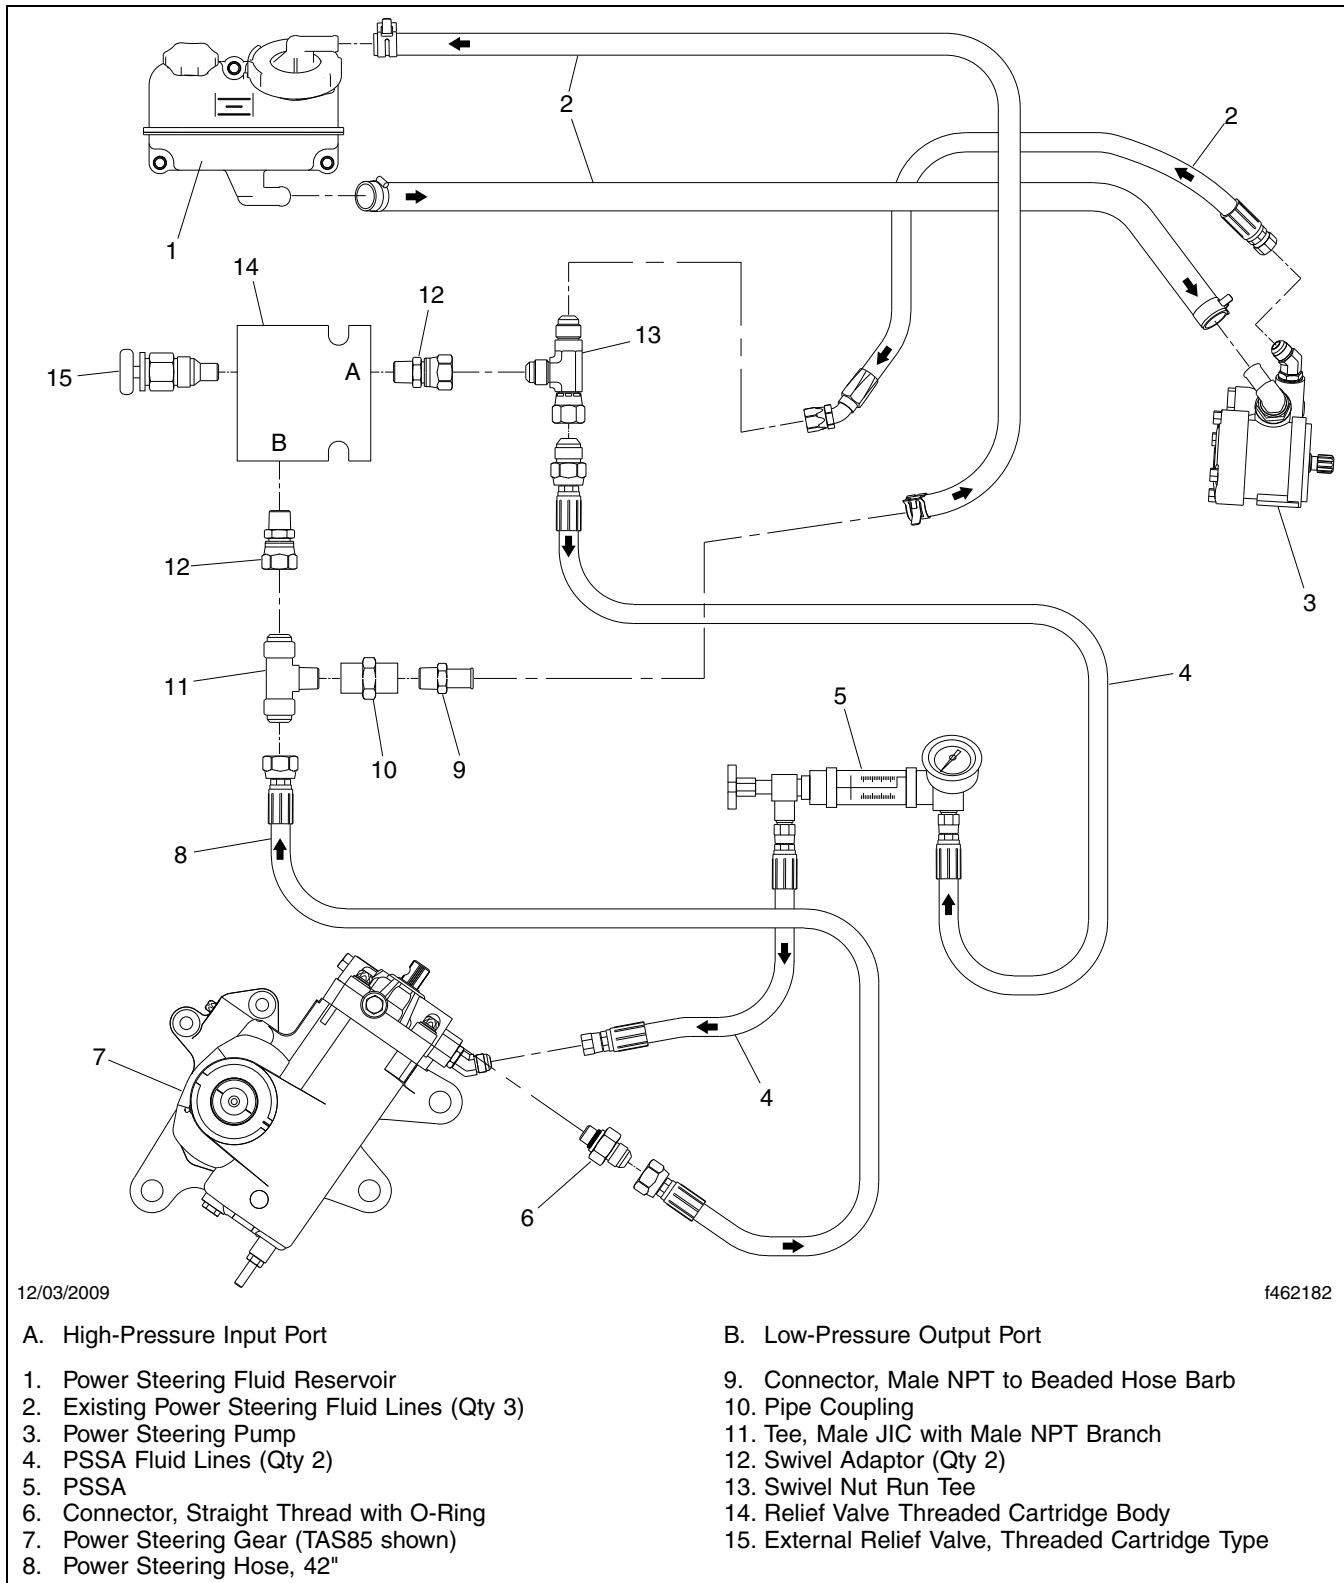

Fig. 6, Internal Leakage Test Component Installation
1. Turn the engine off. Remove the relief valve cap, O-ring, and relief valve from the steering gear. See **Fig. 6**.
3. Assemble the relief valve cartridge body, relief valve, and tee fittings as shown in **Fig. 6**.
4. Install the PSSA and other test components as shown in **Fig. 6**.